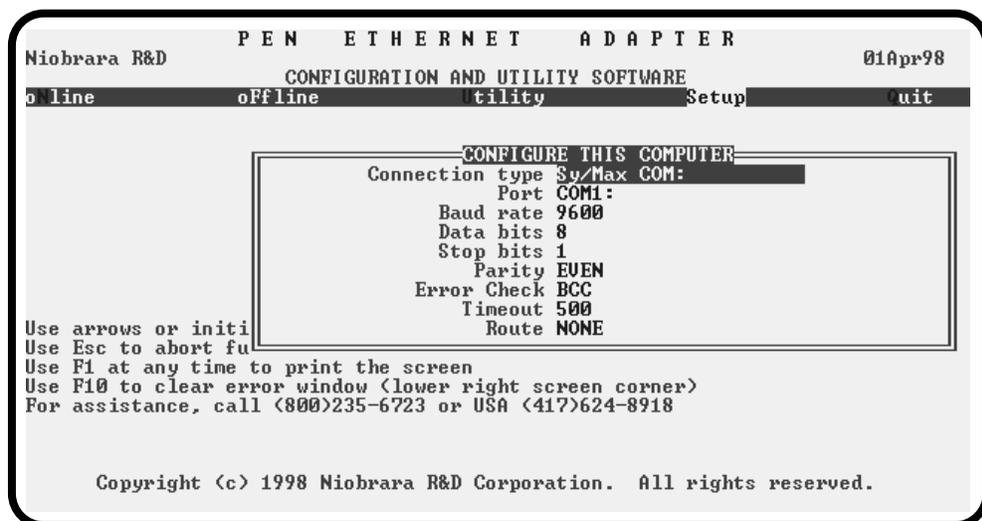

Figure 2-3 PENSX SY/MAX Configuration Screen
- 5 Press S for Sy/Max. The screen should appear as in Figure 2-3.